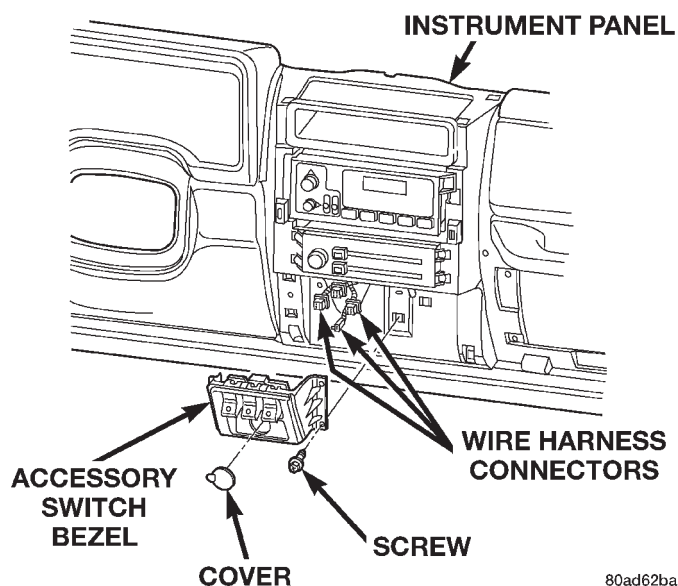

Fig. 13 Accessory Switch Bezel Remove/Install
(1) Disconnect and isolate the battery negative cable.
(2) Remove the center bezel from the instrument panel. See Instrument Panel Center Bezel in this group for the procedures.
(3) Remove the four screws that secure the accessory switch bezel to the instrument panel (Fig. 13).